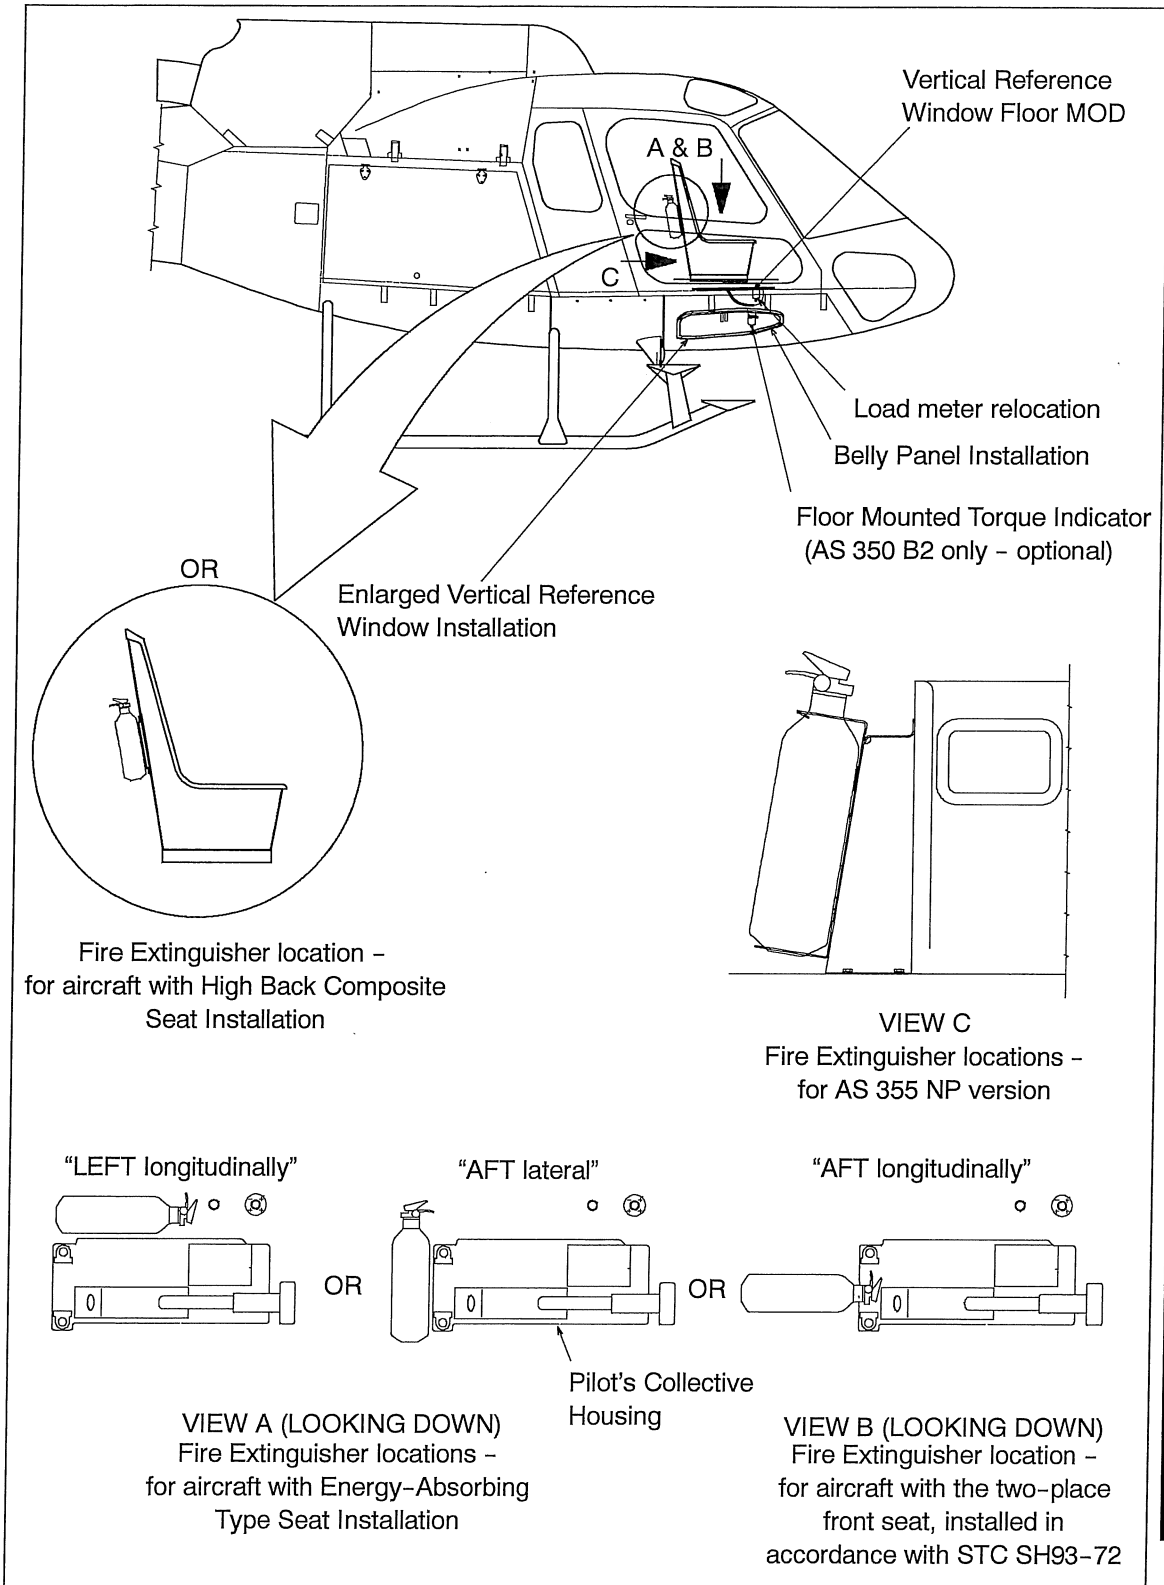

Figure 1 General Layout
- back of the pilot's seat (for aircraft with high back composite seat). Refer to Figure 1.
- "AFT laterally" or "LEFT longitudinally" of the pilot's collective housing (for aircraft with energy-absorbing type seat installation). Refer to Figure 1, VIEW A.
- "AFT longitudinally" of the pilot's collective housing (for aircraft with the two-place front seat, installed in accordance with STC SH93-72). Refer to Figure 1, VIEW B.
- back of center console (for aircraft with energy-absorbing type seat installation and extended center console, AS 355 NP version). Refer to Figure 1, VIEW C.